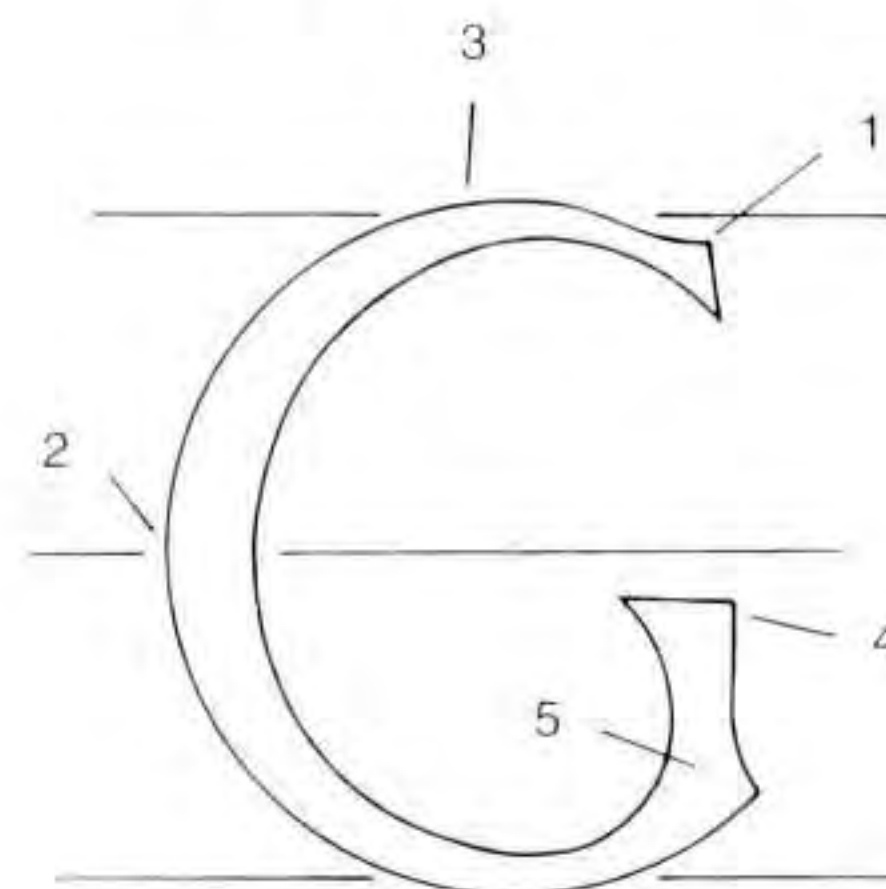

Fig 6.8 Features of the letter G.
See Fig 6.8. This letter should resemble C in its flattened top part (with serif), its overall curve, its size and its sense of roundness. The top serif (1) should be a little smaller than that of C, because the counter is taken up with the vertical arm, and may overhang the stem slightly.